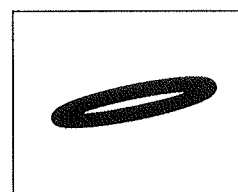

Fig. 3
5. Change to a compact disc and playback the inner periphery. Check if the lissajous figure is the same as the one shown in Fig. 3.
6. If the compact disc's inner periphery lissajous figure differs from the one shown in Fig. 3, repeat steps 4 to 5.